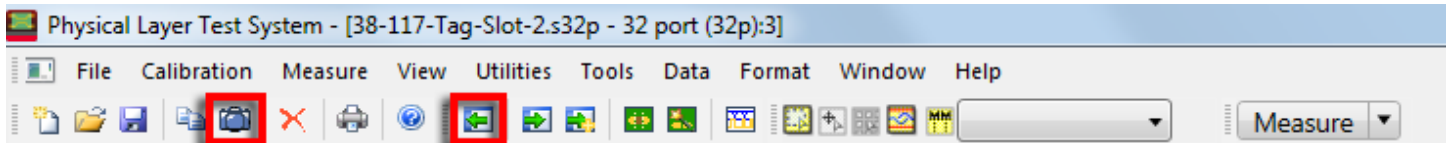

Figure 13 - PLTS toolbar export
- a) Press Export button on toolbar to save .s32p file. This button is shown in the right red box in Figure 13.
- b) Press Export Bitmap button on toolbar to save screenshot of the graphs. This button is shown in the left red box in Figure 13.